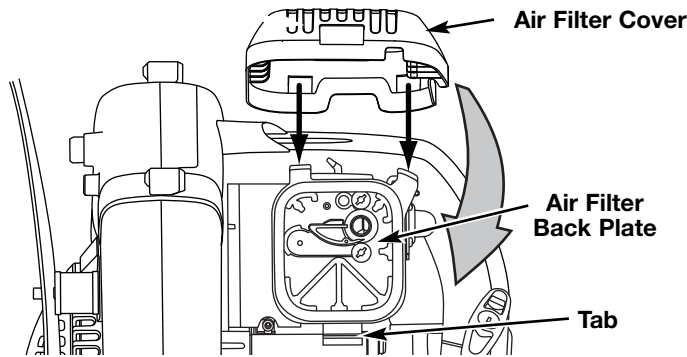

Fig. 28
8. Swing the cover down until the tab on the air filter backplate snaps into place in the slot on the air filter cover (Fig. 28).